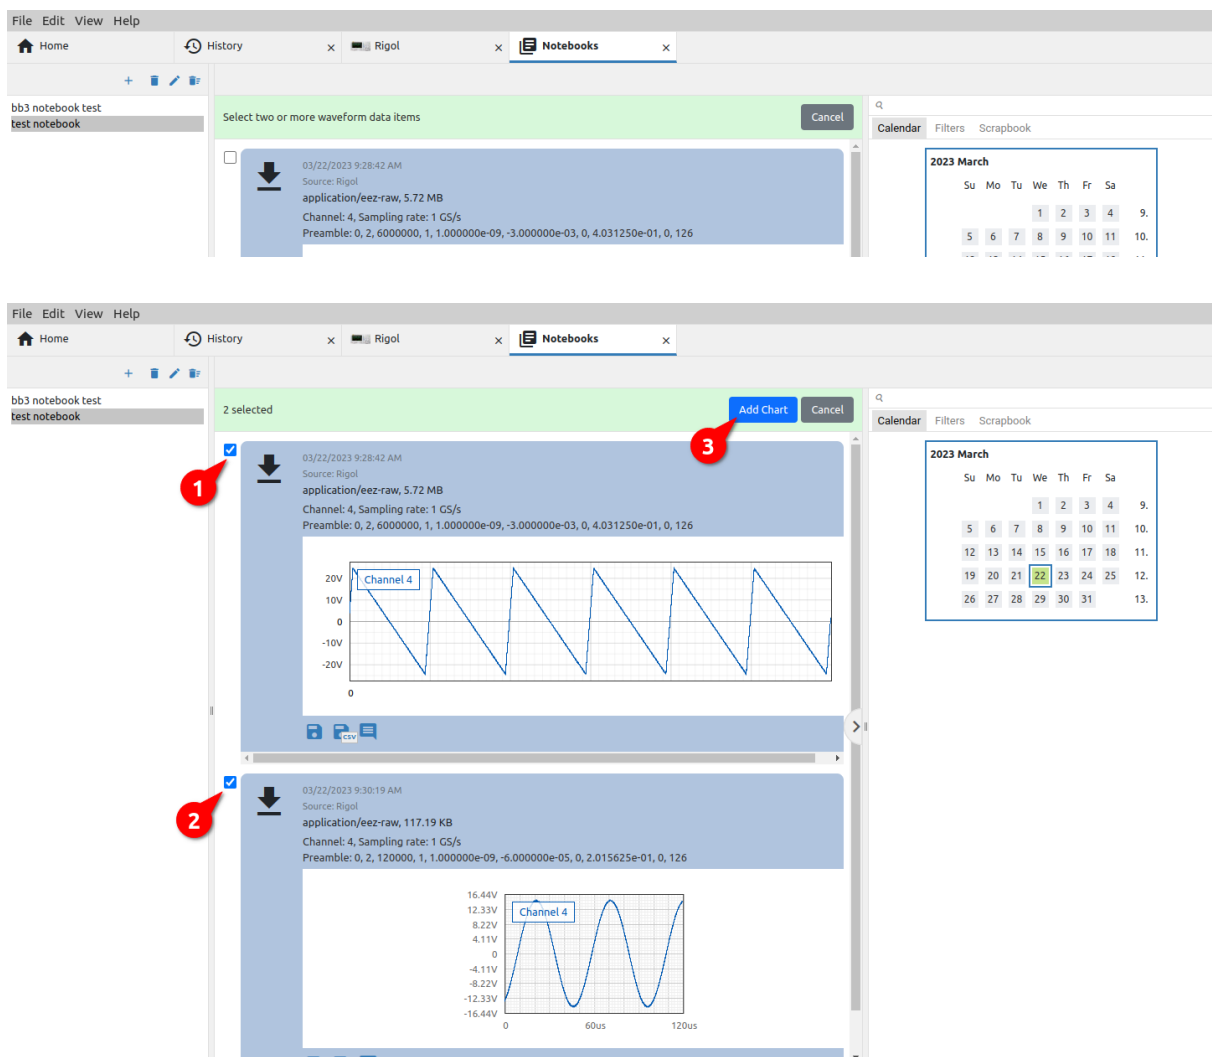

Fig. 15: A selection of graphs to add to the notebook
This option allows you to create a new graph from two or more existing ones and add it to the notebook. To create a new graph, you will need to select at least two of the found graphs in the currently selected notebook (1, 2) and add it to the notebook (3) as shown in Fig. 15.